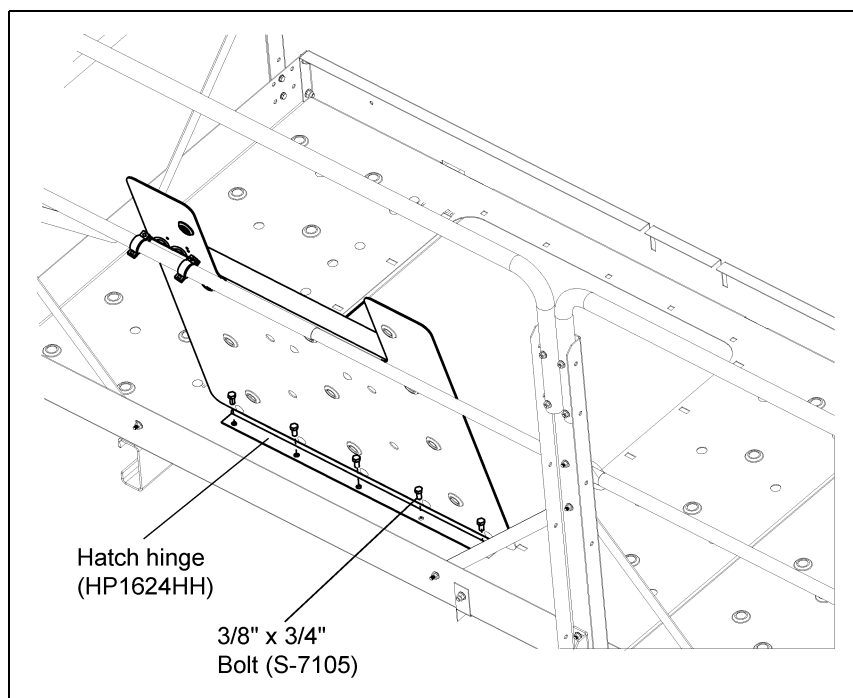

Figure 11D
- Align holes on the hatch hinge with holes along the deck opening closest to the kick plates. Install the hatch door to the decking using 3/8" x 3/4" bolts (S-7105) and nuts. *(See Figure 11D.)*